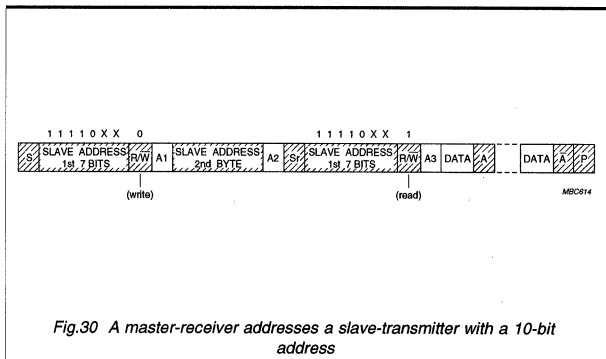

Fig.30 A master-receiver addresses a slave-transmitter with a 10-bit address
- **Master-receiver reads slave-transmitter with a 10-bit slave address. The transfer direction is changed after the second R/W bit (Fig.30).** Up to and including acknowledge bit A2, the procedure is the same as that described for a master-transmitter addressing a